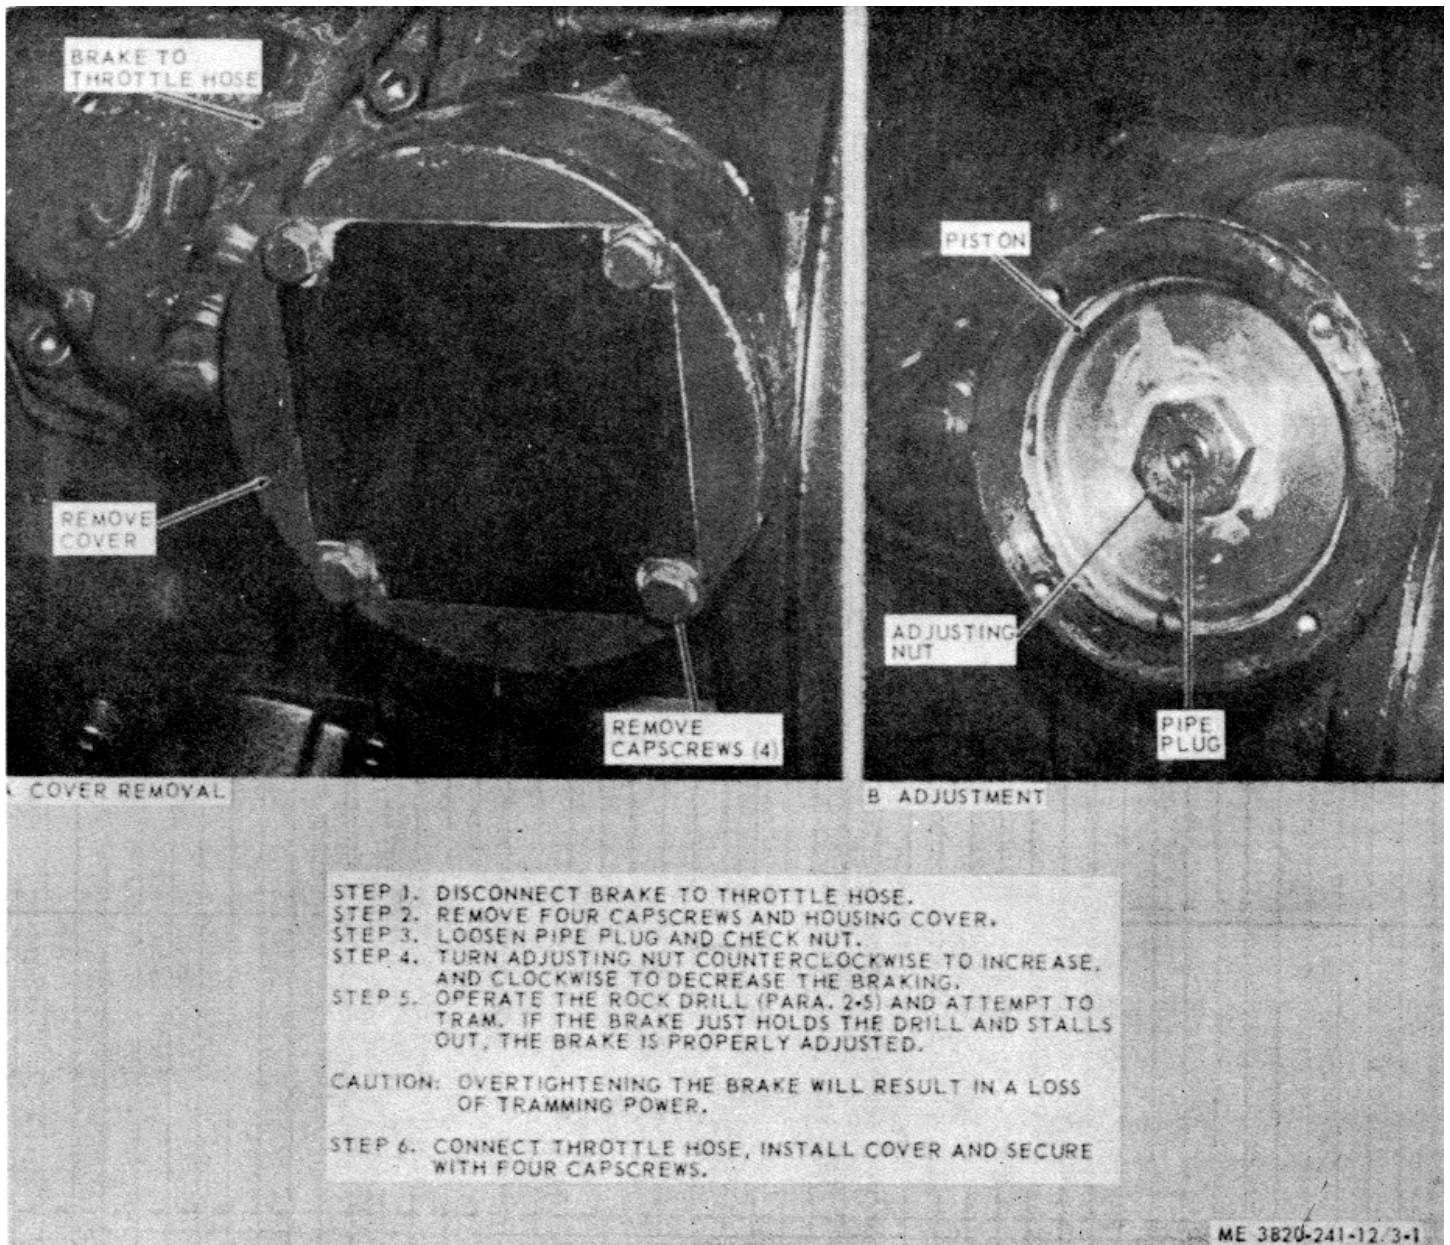

Figure 3-1. Transmission tramping brake adjustment
b. Brake Adjustment. Adjust the transmission tramming brake as illustrated in figure 3-1.